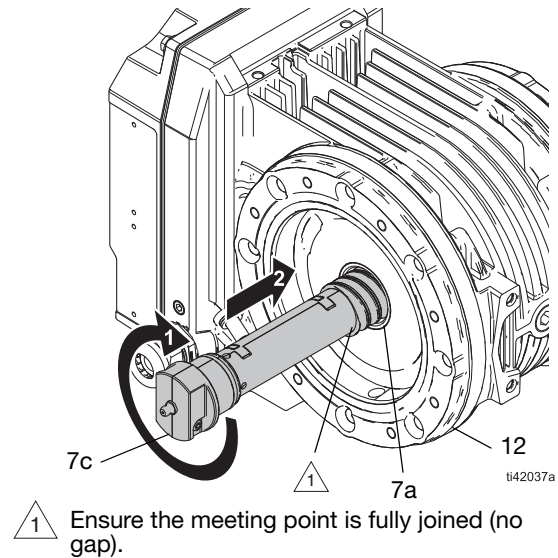
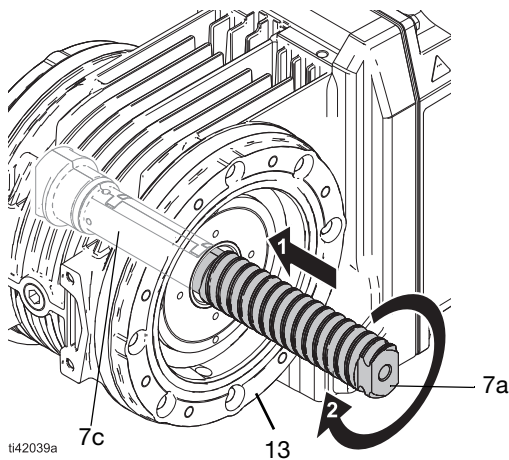

FIG. 22: Insert Rotor Greasing Tool
FIG. 24: Remove Rotor Greasing Tool
Use the rotor greasing tool to liberally apply grease to the rotor (7) and shaft (7a). See FIG. 22–FIG. 24.
7. Turn the shaft (7a) to reinsert the shaft into the rotor (7). Turn until the rotor greasing tool (7c) fully emerges from the sensor-side stator cap (12). See FIG. 24.